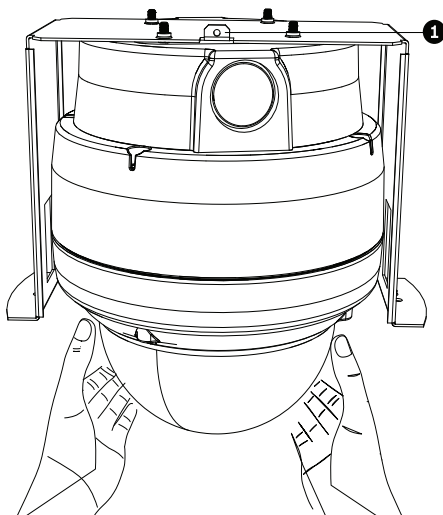

Figure 3.11 Attach Dome to Mounting Plate
The recessed mounting bracket is provided with an additional safety tether point (item 1, *Figure 3.11*). To prevent injury, attach a safety wire from a secure anchor point above the ceiling to this tether point.
11. Align trim ring so the four alignment posts (item 1, below) align with the recesses in the camera housing (item 2) and so the two safety screws align with the off center holes (item 3) on the locking clamps.